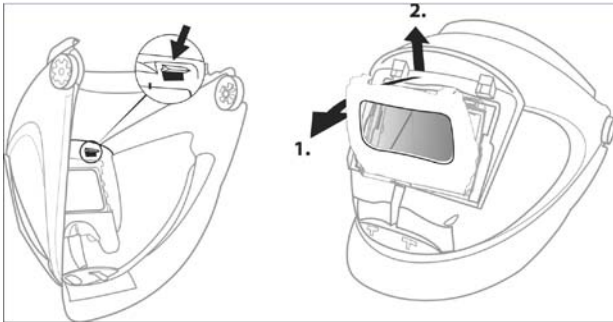

Fig. 19c Removing the 9100 ADF – press down then out on the tab in which the arrow is pointing
- Remove the ADF by pressing down on the blue tabs from the inside of the shield to release the latch mechanism, and then push the tab through the opening (Fig. 19c).